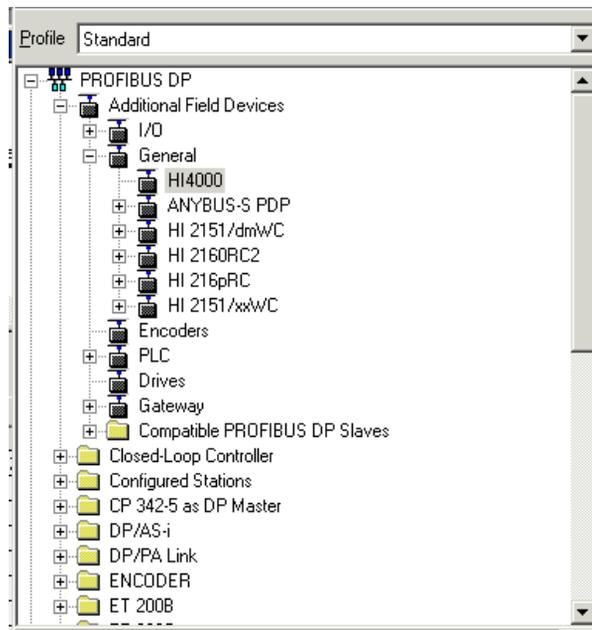

FIG. 162 HARDWARE CATALOG/SELECTING HI 4000 PDP FOLDER
- Step 2. Click on the “+” to expand the Additional Field Devices Folder. (See Fig. 162)
- Step 3. Click on the “+” to expand the General Folder. (See Fig. 162)
- Step 5. Double Click on “HI4000” or drag and drop the “HI4000” folder to the Profibus-DP Network. The Parameters dialog box appears. (See Fig. 162)